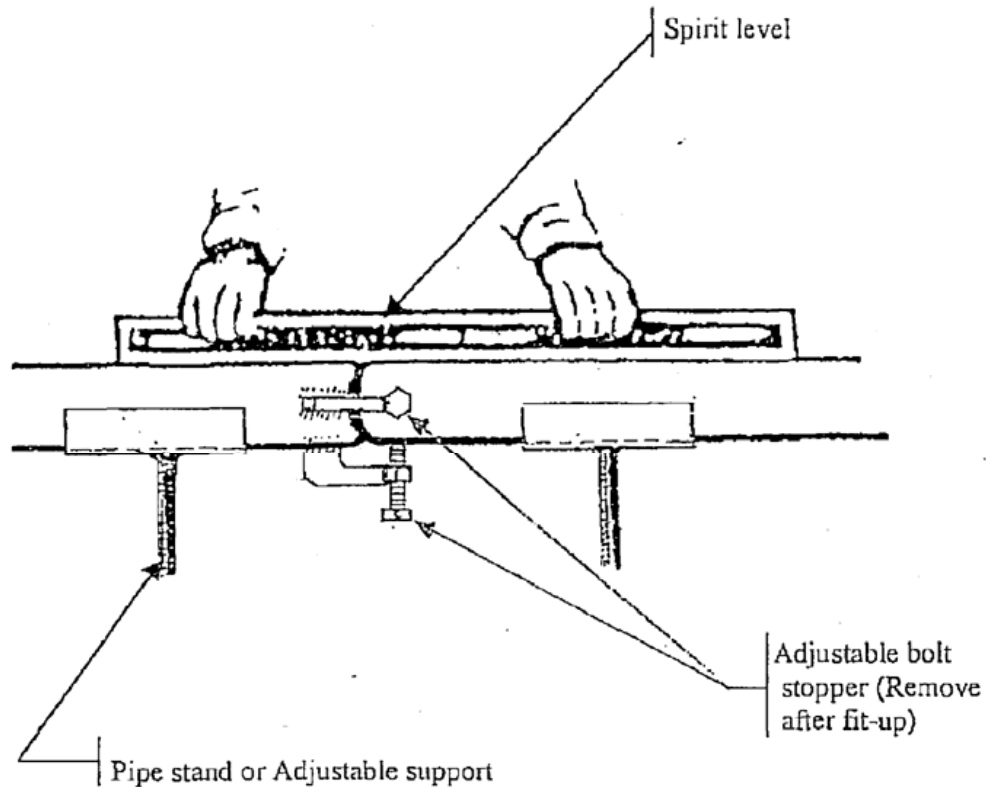

Figure 2 – Pipe to Pipe Fit Up
- Lay the two (2) pipes on top of the pipe stand or adjustable support, with each pipe ends aligned near each other using adjustable bolt stopper as shown on Figure 2 below.
- Bring lengths together leaving only a small welding gap. In normal practice, a welding electrode of 2.4 mm Ø size, removed of its covering and bent in the middle at an angle of 30° is inserted between the two pipes to obtain a perfect welding gap. It is recommended to weld adjustable bolt stoppers (small piece of plate about 12 mm thick with an M-16 hexagon bolt and nut welded at one end as shown in Figure 2) for perfect and easy alignment.
- Place the spirit level over both pipes as shown on Figure 2 and maneuver until both pipes are leveled. Adjusting the pipe support can easily do this. Ensure that there is no high-low situation or misalignment between the two outside surfaces.
- Lay one (1) pipe on top of the adjustable pipe support.
- Place the 45° elbow to the end of the pipe leaving a small welding gap, similar to item 4.3.3 for Pipe to Pipe fit up.